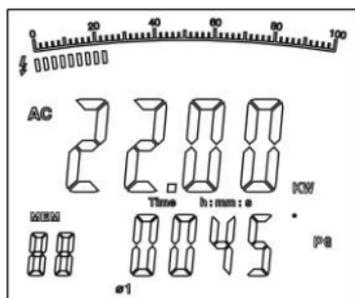

Figure 7
1. Press **SEL** to choose first phase 01 , see figure 7. The double displays show the active power kW value and the PG value of the second phase 1.